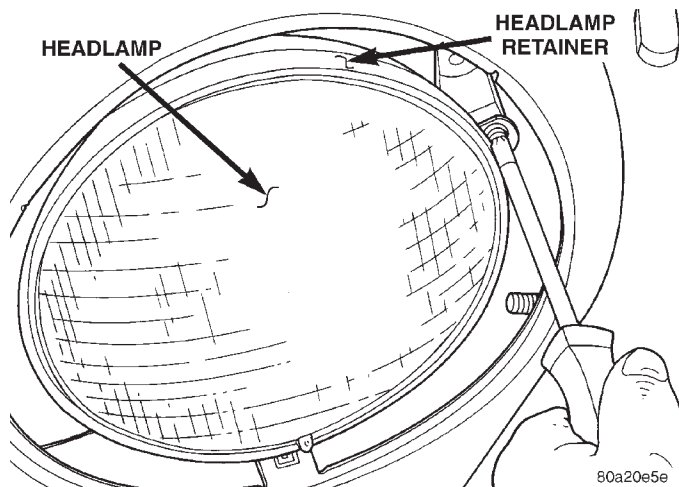

Fig. 2 Headlamp Retaining Ring
- (2) Remove the screws that attach the headlamp retaining ring (Fig. 2).